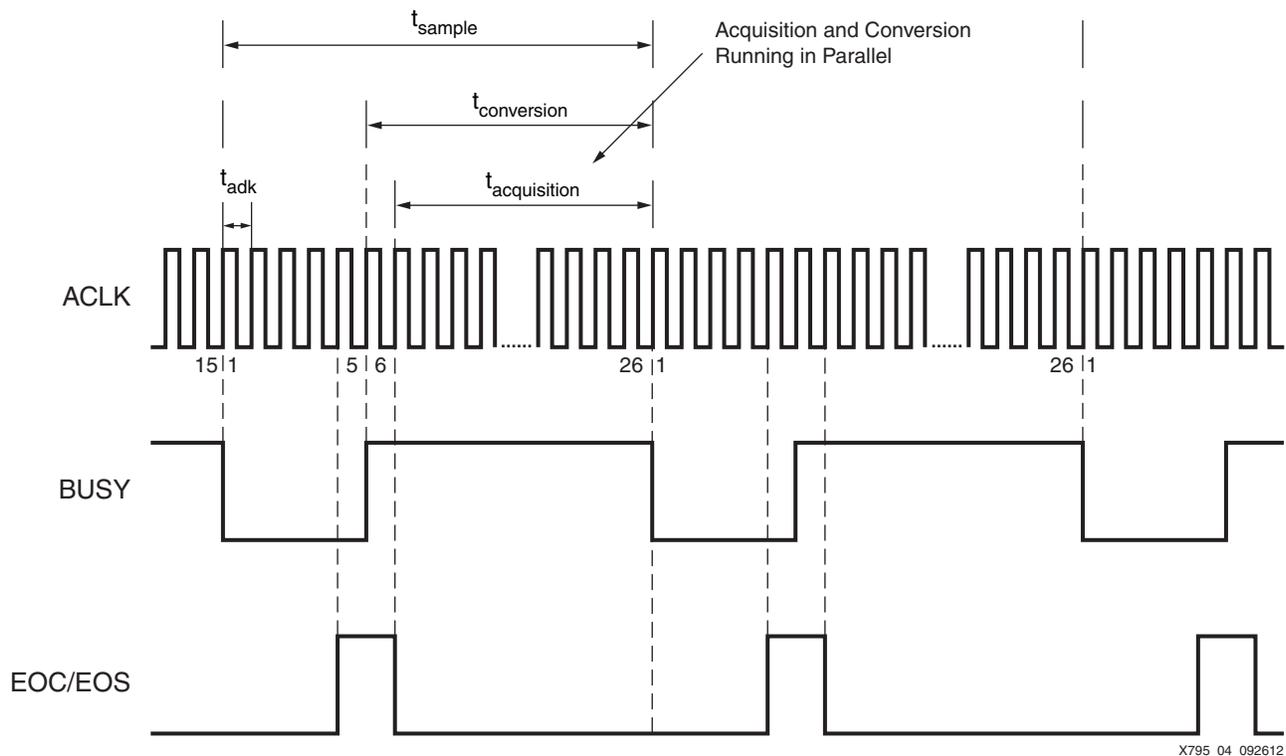

Figure 4: Acquisition and Conversion Timing Diagram
The XADC addresses this issue by allowing the conversion and acquisition phases to occur in parallel resulting in greater than 75% of the overall sample time being available for acquisition, as shown in Figure 4. This arrangement significantly reduces the requirements for the analog front end driving the XADC, the benefit of which is illustrated in each of the use cases analyzed in subsequent sections of this application note.
1. Switches S1 and S2 should be closed during the period of the conversion labeled  $t_{\text{acquisition}}$  in Figure 4, page 4.